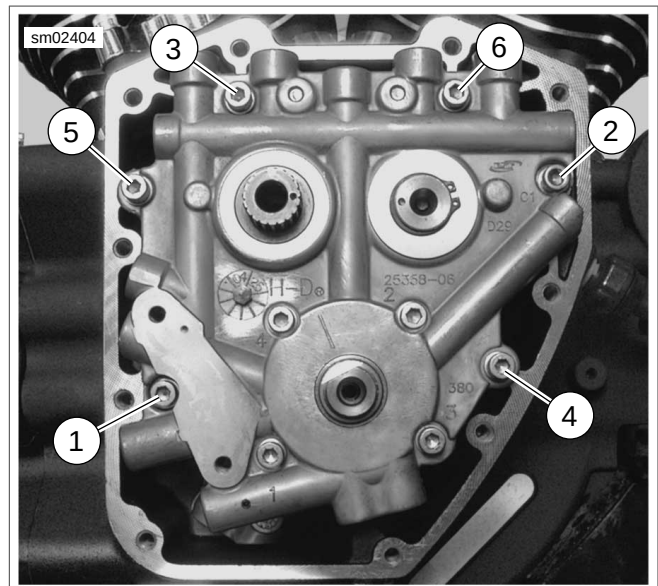

Figure 3-112. Cam Support Plate Torque Sequence
5. See Figure 3-112. Install cam support plate screws. Tighten to 90-120 **in-lbs** (10.2-13.6 Nm) in the sequence shown.